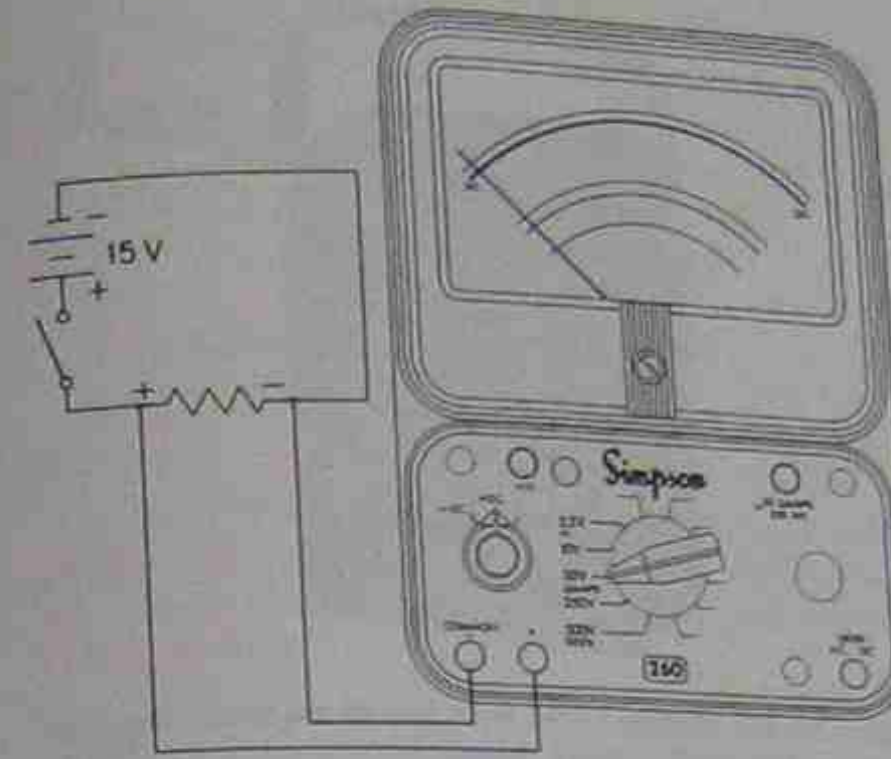

Figure 11-43. VOM with function switch set at +DC. Range switch set at 50 V. Courtesy of Simpson Electric Co., Elgin, Illinois
Figure 11-43 is a DC circuit with 15 V from the battery power source. To check this voltage with the VOM, set the function switch to +DC. Set the range switch to 50 V, Figure 11-43. If you are not sure about the magnitude of the voltage, always set the range switch to the highest setting. After measuring, you can set the switch to a lower range if necessary to obtain a more accurate reading. Be sure the switch in the circuit is open. Now connect the black test lead to the negative side of the circuit, and connect the red test lead to the positive side, as indicated in Figure 11-43. Note
5. Connect the test leads across the load as shown in Figure 11-43.